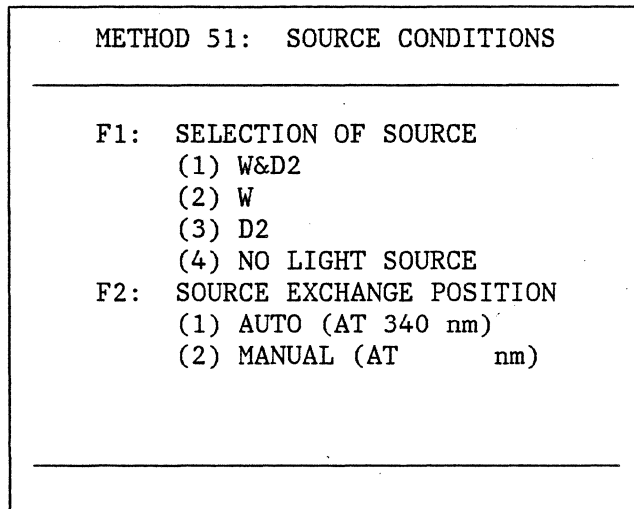

Figure 10-1. Method 51 Display
1. Press the **Method** , **5** , **1** and **Enter** keys. The CRT will appear as shown in Figure 10-1.